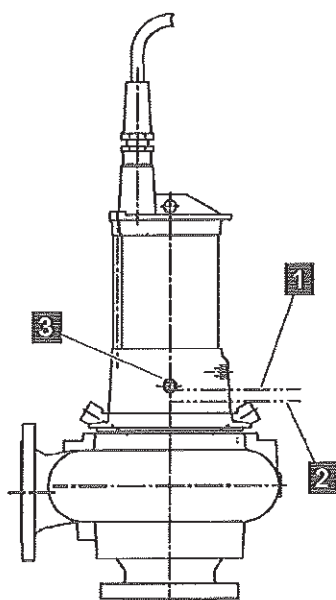

Fig. 74
- If oil is clear, add oil to level (Fig. 74/1). Close oil drain opening with screw plug with new, annealed copper seal (2).